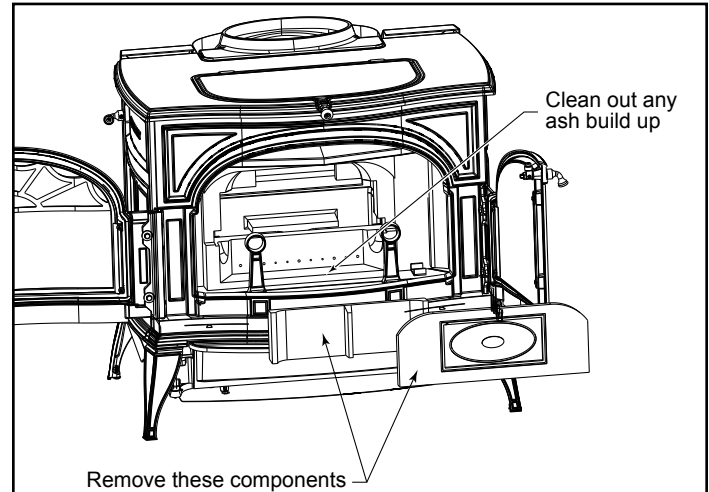

Fig. 47 - Inspect and clean out ash accumulation behind the combustion system.
- Inspect for and remove ash build-up behind the combustion package. This should be done in conjunction with annual cleaning of the chimney connector. Inspect the passage behind the combustion package (a mirror will be helpful) and vacuum away ash using a flexible vacuum hose inserted in the passage. (Fig. 47)